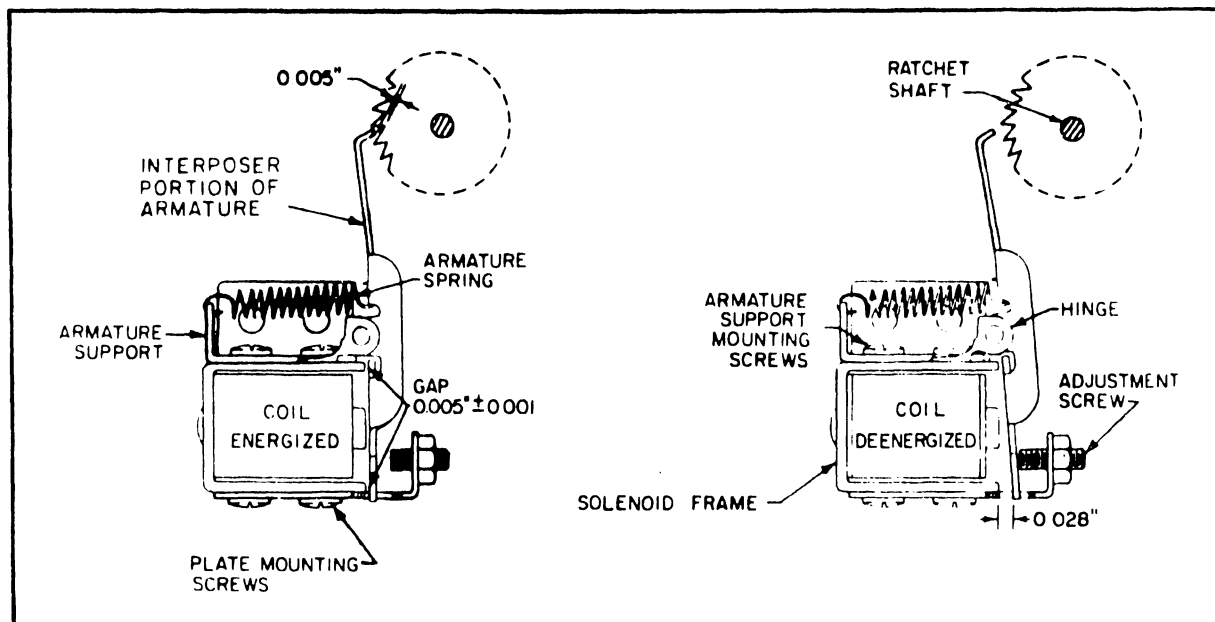

Figure 3.11 Forward Feed Solenoid
time (zero degrees), the lower portion of the solenoid armature is pulled against the solenoid core and the interposer portion above the armature pivot point, see Figure 3.11, moves toward the ratchet gear.
2. Check the gaps by electrically energizing the solenoid, or by pressing the armature against the solenoid. Do not apply any excessive force. Gap width should be 0.005 ± 0.001 inch as shown in Figure 3.11. If an adjustment is required, loosen the top and/or bottom armature or plate in such a manner that the specified gap is obtained. Measure the gap only with a non-magnetic feeler gage. Tighten all screws securely.
- Loosen the solenoid mounting screws and pull the solenoid toward the rear of the punch (away from the ratchet shaft) until the rear mounting screw rests on the edge of the enlarged rear mounting hole. Then swing the solenoid toward the ratchet until the interposer portion of the armature leaves a gap between its tip and the outer edge of the adjoining ratchet gear tooth of 0.005 inch. The gap is shown in Figure 3.11.